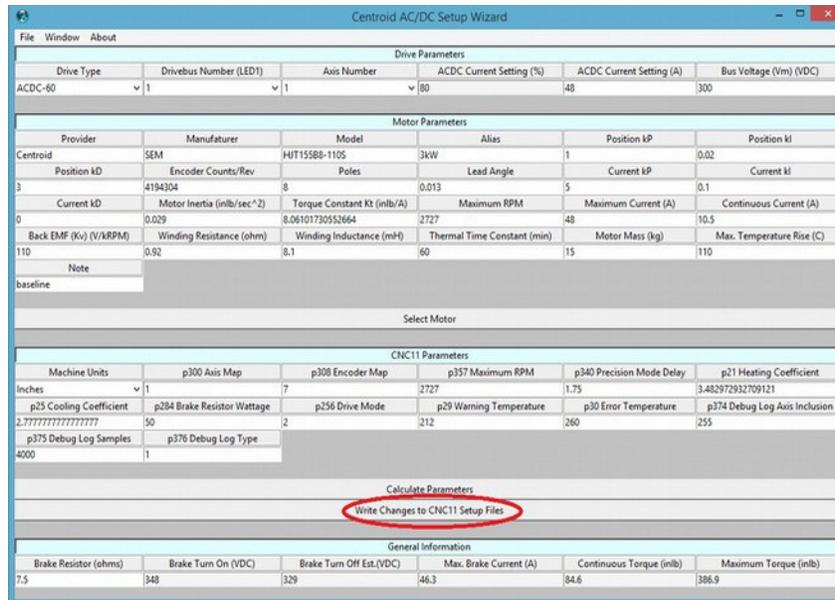

Figure 3.3.10
6. With **CNC11 closed**, click **“Write change to CNC11 Setup Files”** and as shown circled below in Figure 3.3.10.